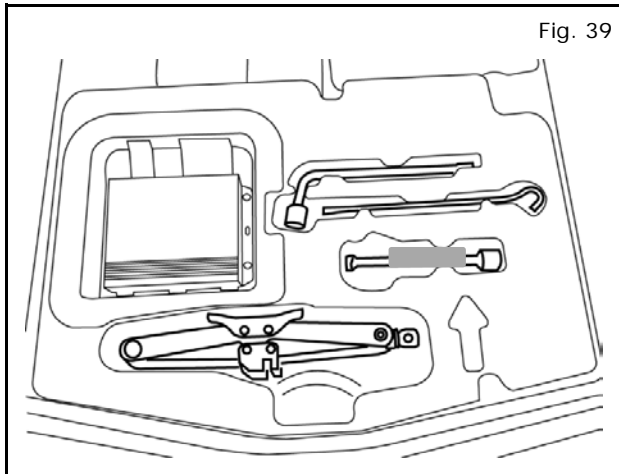

Fig. 39
39) Replace all tools into the lug box as shown. (Figure 39)